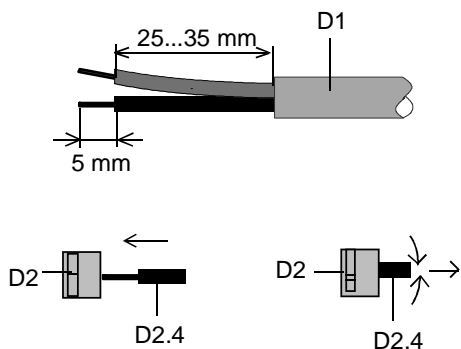

Figure 4: Slipping on/off bus connection blocks
**Connecting bus cables (Figure 4)**
Disconnecting bus cables (Figure 4)